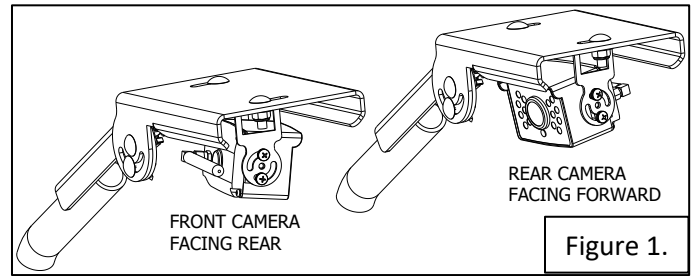
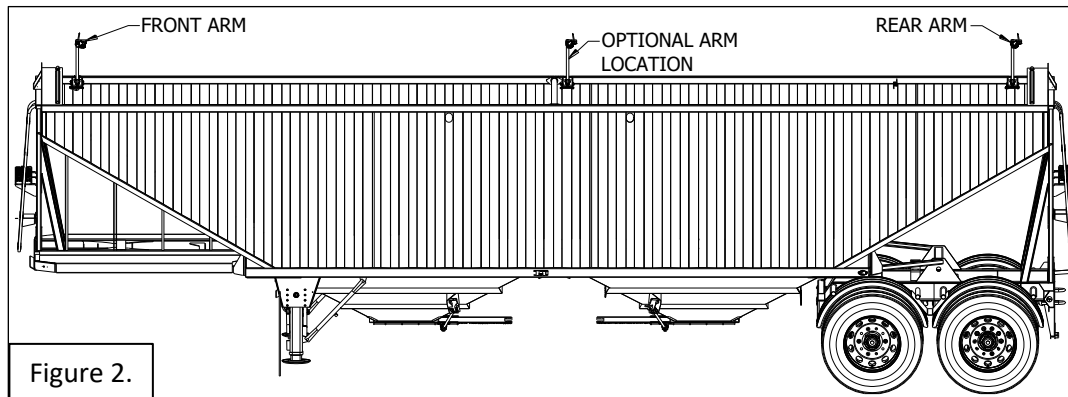
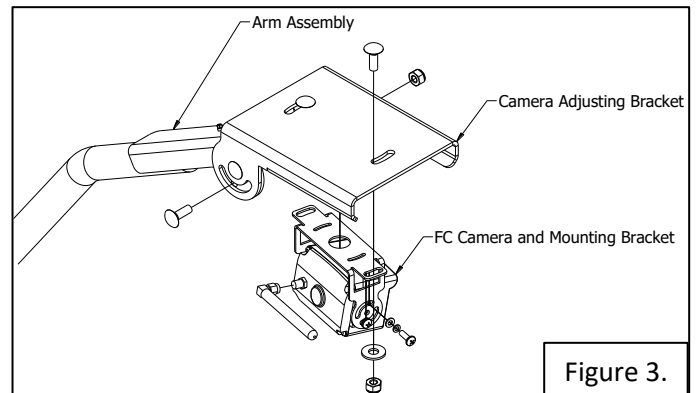

Figure 1.
Figure 2.
Figure 3.
Most of The Camera Arm comes pre-assembled from the factory, except for mounting of the camera. The camera isn't mounted on the arm, since the orientation of the camera needs to be determined by the end user. Figure 1. Shows the two different orientations of the camera assembled onto the Camera Adjusting Bracket. One is assembled to be mounted at the front of the trailer and the other is assembled to be mounted at the rear of the trailer. It is suggested that on trailers 32ft and under, that 1 camera arm be mounted at the front of the trailer. Suber-B trailers would receive a pair of camera arms, with one arm at the front of each trailer. On trailers longer than 32ft, it is suggested to mount one Camera Arm on the front and one Camera Arm on the Rear as shown in Figure 2. As an Optional mounting location, the rear arm can be mounted in the middle of the trailer facing backwards. (Note: This may be necessary on longer trailers in order to acquire enough power to operate the camera.) See wiring for more details.
The picture in Figure 3 is showing the procedure for assembling the Camera onto the Camera Adjusting Bracket and Camera Adjusting Bracket onto the Arm Assembly. The orientation that is shown is considered to be a front mount rear facing camera when the tarp opens to the passenger side of the trailer. To build a rear mount front facing assembly, turn the camera 180°. Refer to Figure 1. Use ¼" Carriage bolts, washers, and Nylock Nuts to secure the brackets into place. Leave the carriage bolts loose until after the camera adjustment is completed in Step 7.
3. Move the rear camera to the optional arm location near a center partition in the trailer. See Figure 2. Connect the wiring to a side marker light through the side wall of the trailer. It is recommended to temporarily connect the wiring to ensure that this is an adequate power source before fully installing the camera. **Caution** must be taken when drilling through the top header of the trailer as there are wires inside the wall and/or top rail tubing.